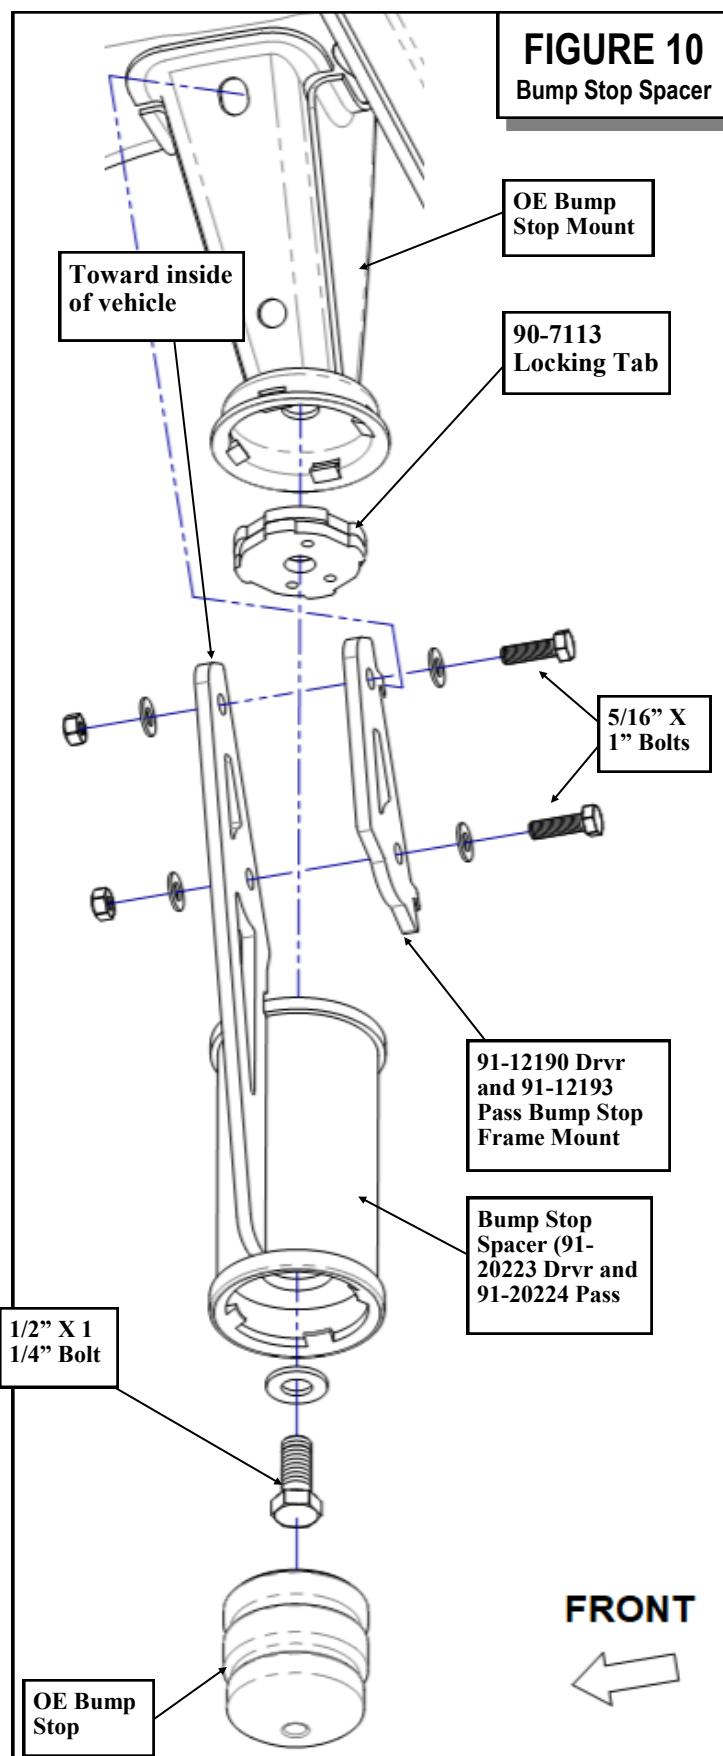

FIGURE 10
63. Install the bump stop spacer (**91-20223 Drvr** and **91-20224 Pass**) to the locking tab using the provided **1/2" X 1 1/4"** bolts and hardware from hardware pack (**90-6502**). Leave hardware loose at this time. See FIGURE 10.
64. Install the bump stop frame mount (**91-12190 Drvr** and **91-12193 Pass**) to the holes in the frame. The "J" hooks will lock into place. The bump stop frame mount will be oriented toward the rear of the vehicle. See FIGURE 10.
65. Using an awl, align the bump stop spacer and the bump stop frame mount (**91-12190 Drvr** and **91-12193 Pass**). Secure it using the supplied **5/16" X 1"** bolts and hardware from hardware pack (**90-6513**). See FIGURE 10.